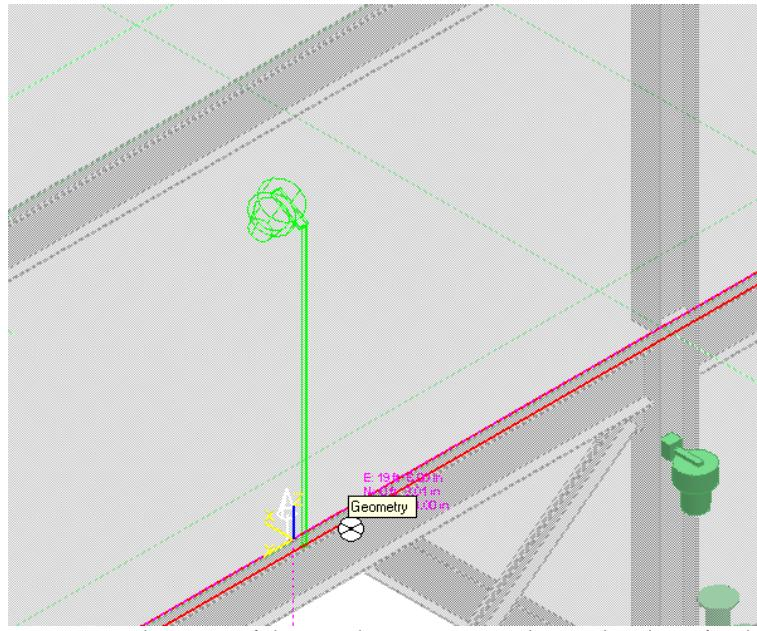

Figure 28: Placement of the Stanchion Mounting Electrical Light Defined
18. On the **PinPoint** ribbon, key in **19 ft 6 in** in the E drop-down list to define the placement point, as shown in Figure 28.